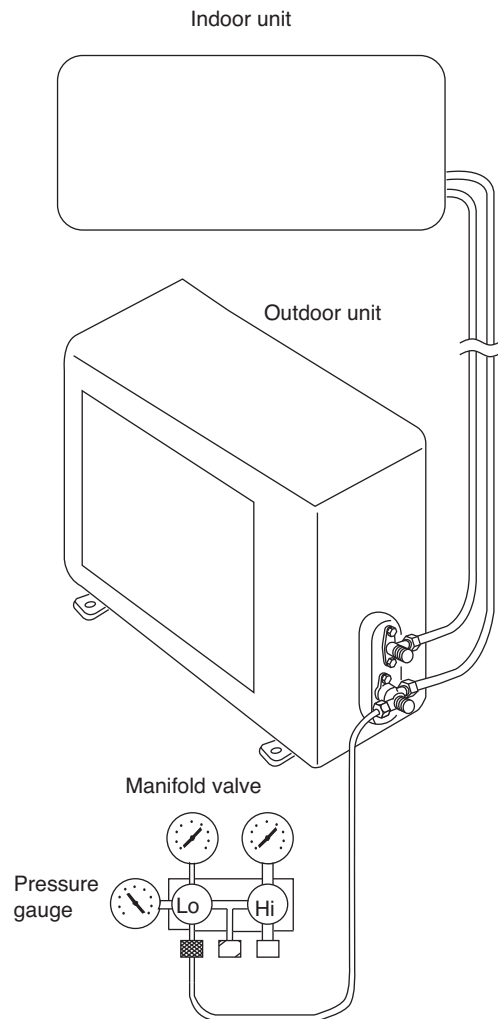

Fig. 39
- (1) Connect the Lo side charging hose of the manifold valve to the service port on the wide tube service valve. (Fig. 39)